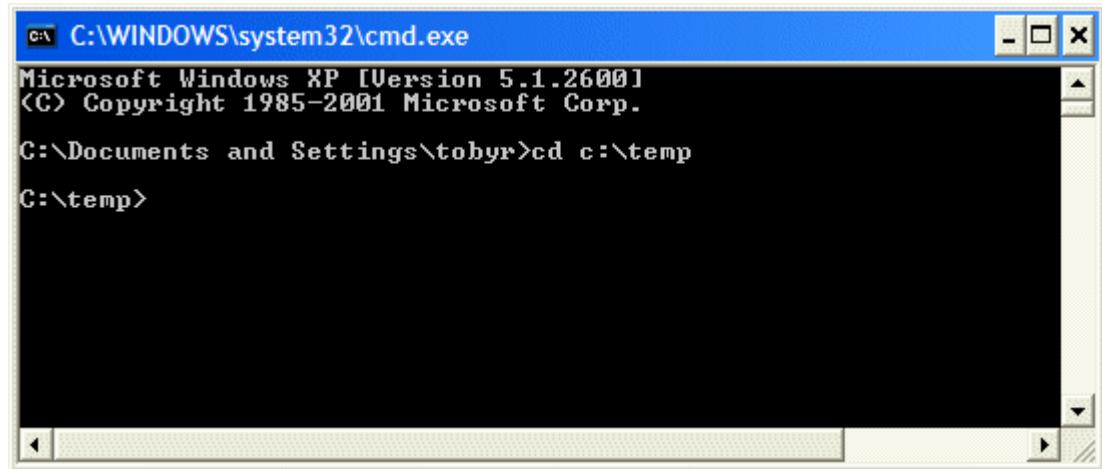

Figure 8-6. Changing the context to your C:\Temp folder.
- 3) Use the **cd** ("change directory") command to change the context to your **C:\Temp** directory (more commonly referred to as a *folder* in Windows®) as illustrated in Figure 8-6 (this is where you've been storing all of your scripts thus far).